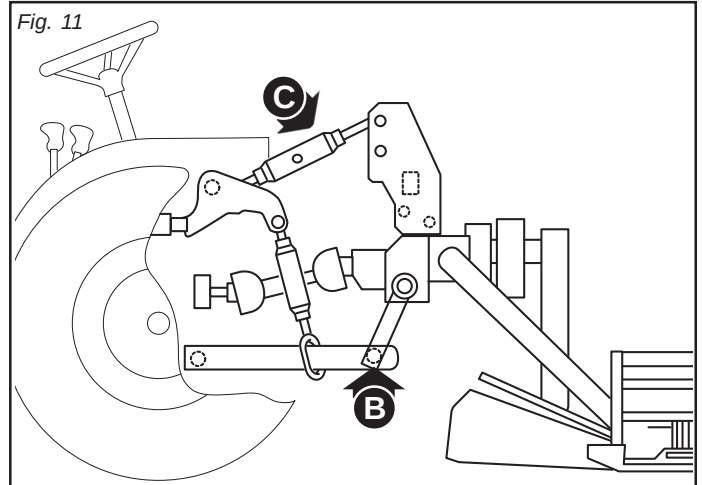

Fig. 11
- 1) Hook the lower arms of the front lifting unit of the tractor onto the mower pins (B), and attach the tie-rod of the third point (C) to the mower and the tractor (See Fig. 11).